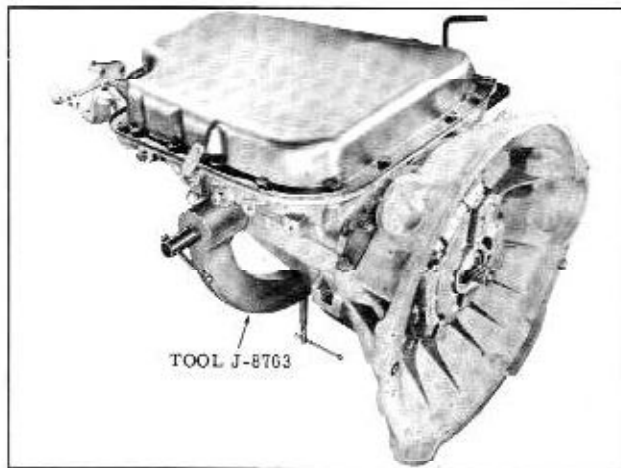

Fig. 3-24 Transmission Holding Fixture
2. Install transmission holding fixture as shown in Fig. 3-24.